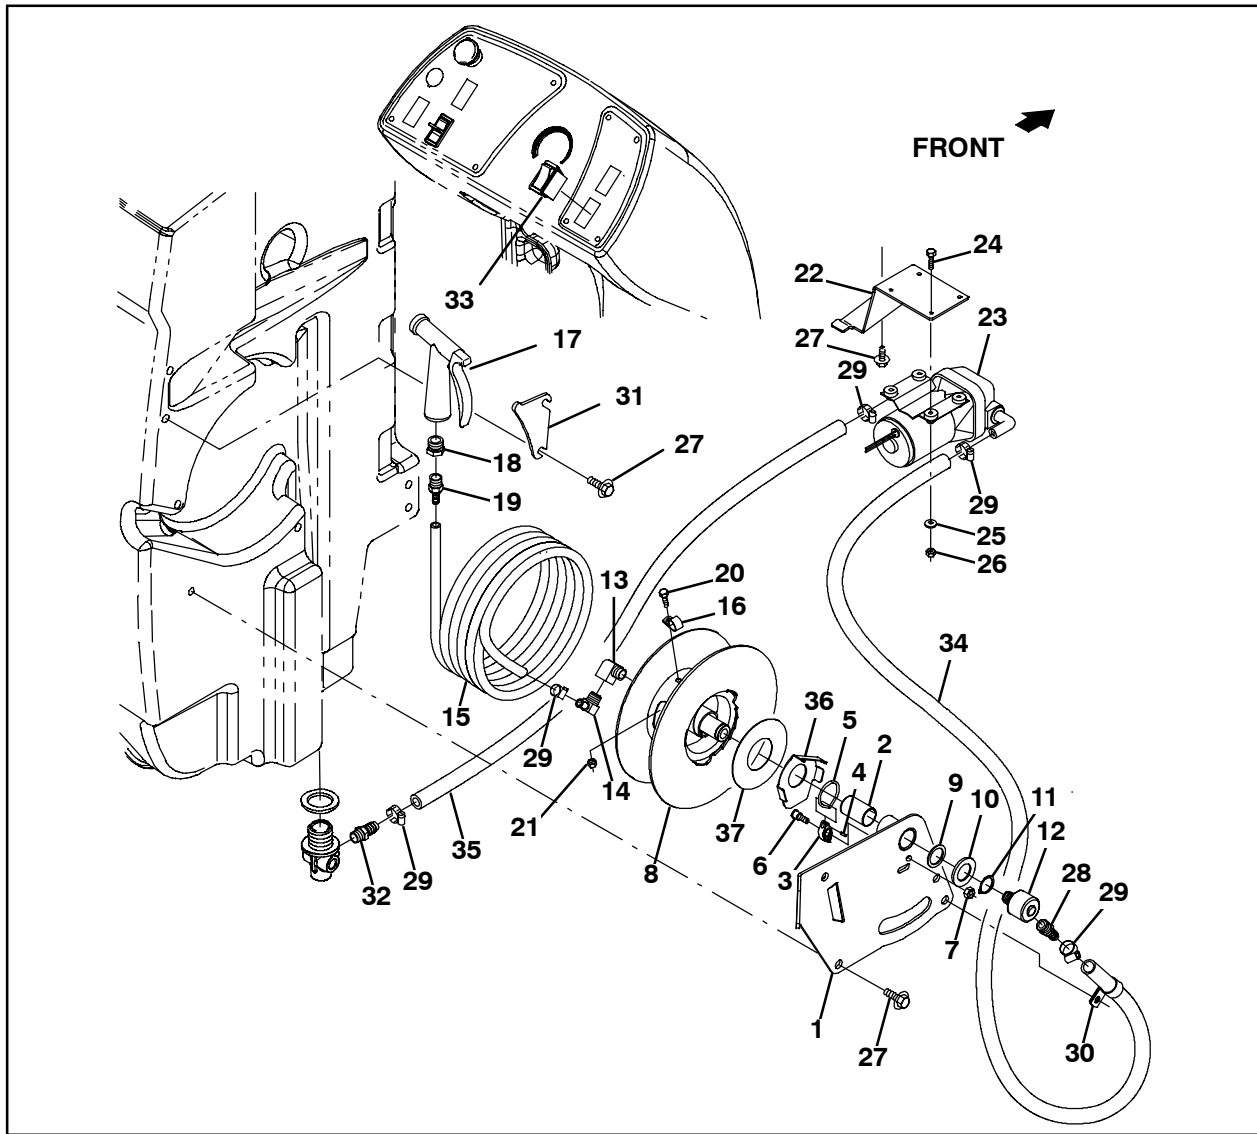
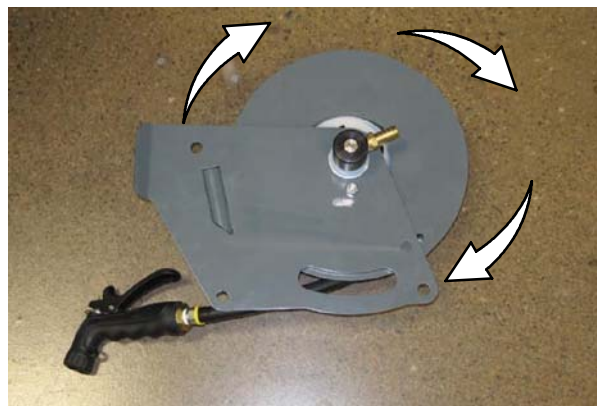

FIG. 7
FIG. 8
1. Wrap the spray hose (15) evenly back onto the reel assembly (8). Refer to Fig. 7.
2. Pull the spray hose (15) out from the reel assembly (8) until the reel assembly has turned at least three revolutions, adding tension to the spring inside the reel assembly.
3. Wrap the portion of spray hose (15) pulled from the reel assembly (8) back onto the reel.
4. Rewind the spray hose completely onto the reel and rotate the spray hose assembly mounting plate four complete turns clockwise to reset the spring tension. Refer to Fig. 8.